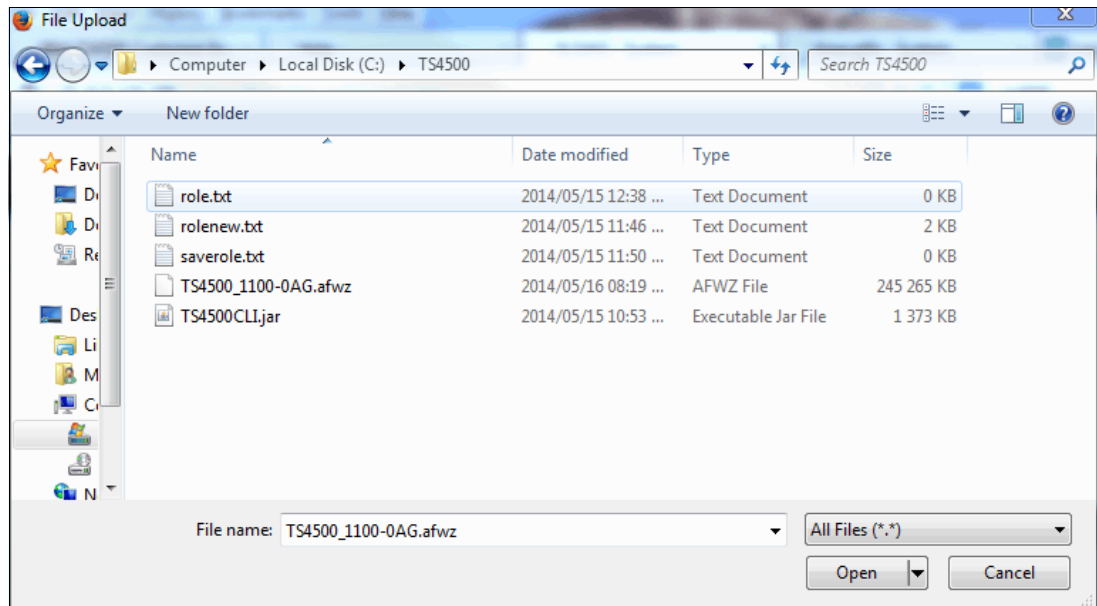

Figure 4-162 File Upload
2. On the File Upload window, browse to the library firmware image and click **Open**, as shown in Figure 4-162.